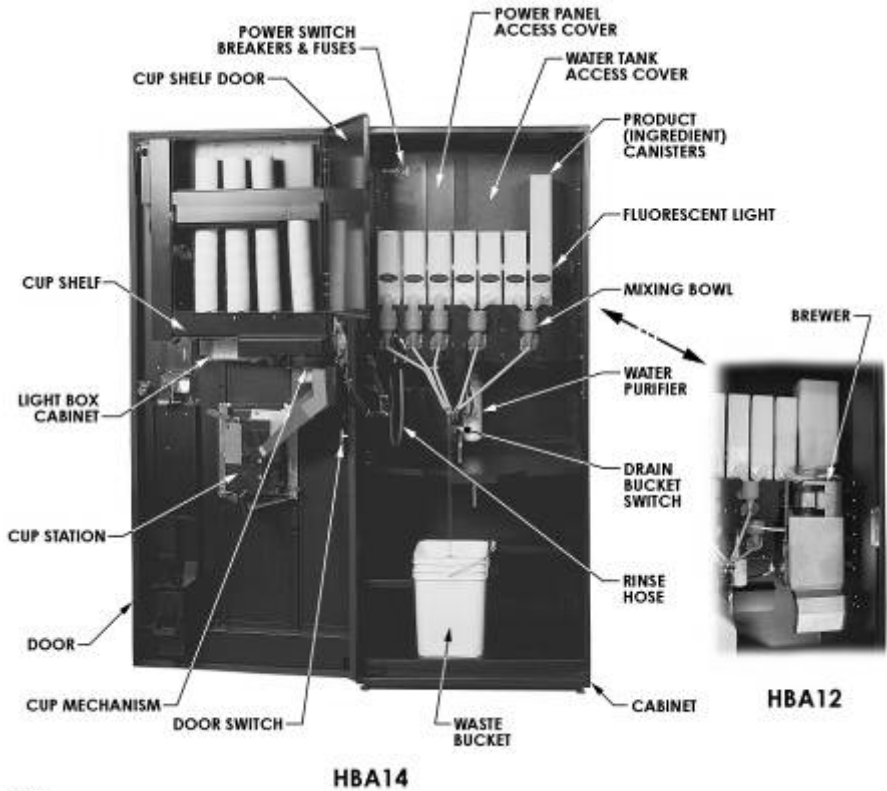

Figure 2.1 Component Identification
2. Locate light box hold-down screws located on the left edge of the **light box** assembly. See **Figure 2.1** on page 3.